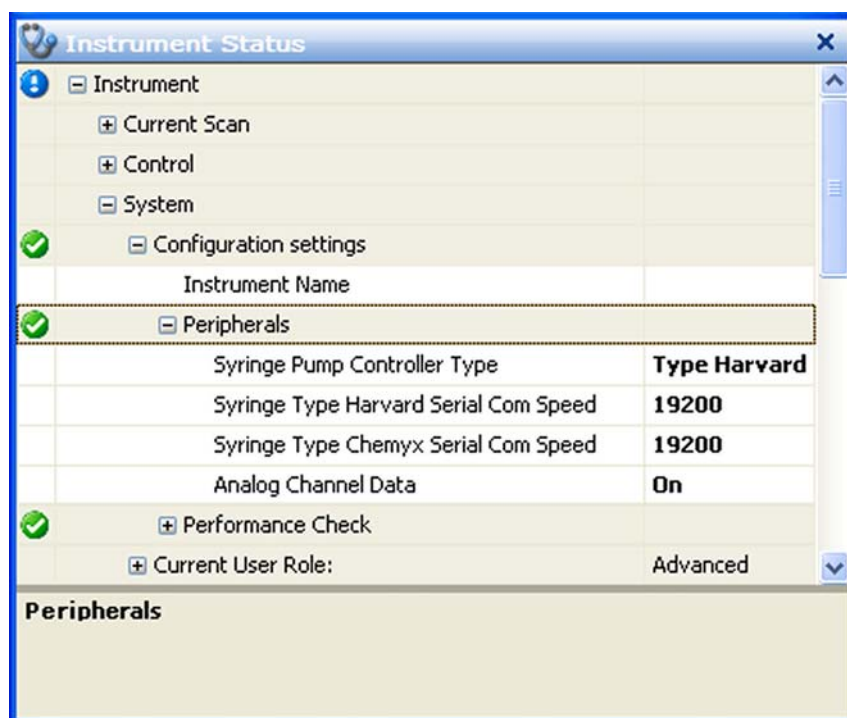

Figure 5-10. Instrument status window—Peripherals node
2. In the instrument status window, click **Instrument > System > Configuration settings > Peripherals**. The Peripherals node displays parameters for the syringe pump. See Figure 5-10.